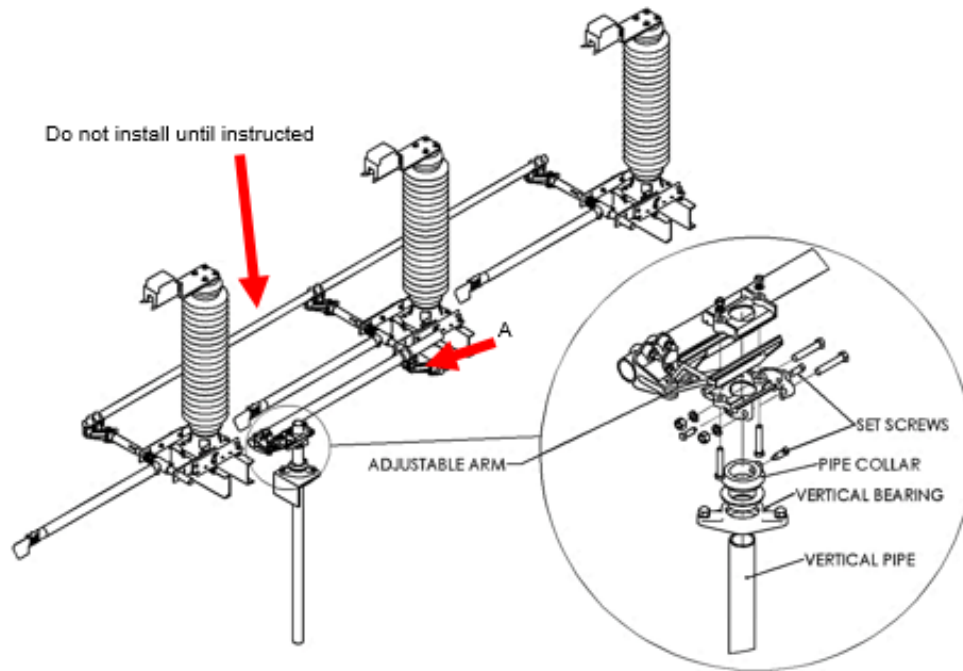
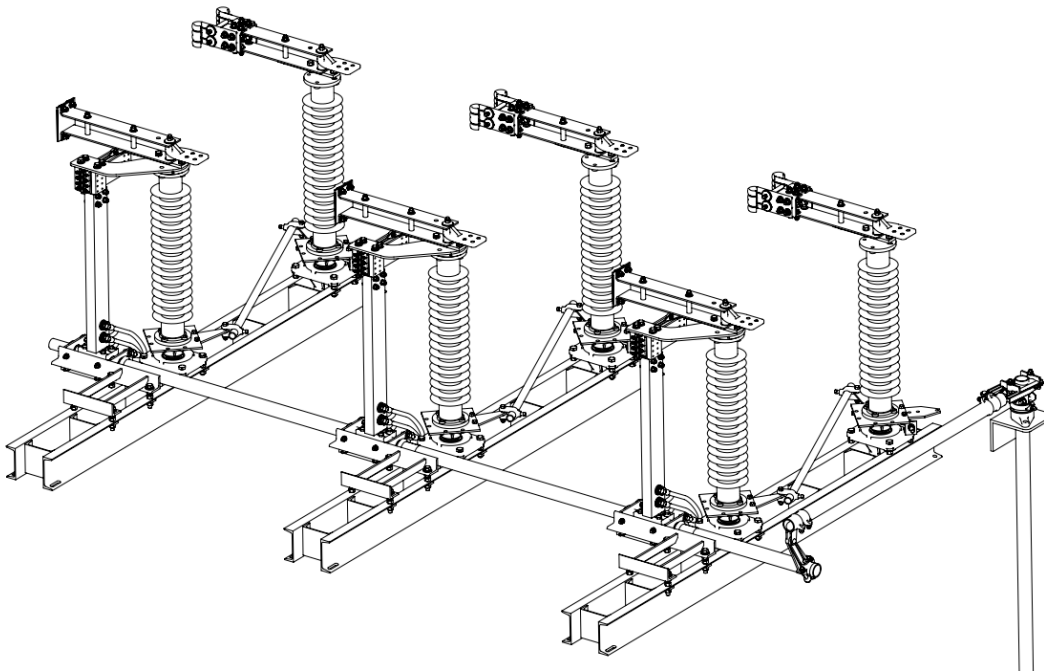

Figure 10: Perpendicular to the Base
Figure 11: Parallel to the Base
- 3.1.1. Depending on configuration, either parallel to the base or perpendicular to the base, use the sketch in **Figure 10** or **Figure 11** as a reference, and the operating mechanism drawing for specifics and dimensions. Install mounting brackets, bearings, bushings, clevises, operating device, adjustable arm, vertical pipe and reach pipe, etc. Be sure to install any encircling member (such as key interlock, pipe guide, etc.) on the vertical pipe at this time. REFER TO SECTION 4.1 for note on interphase pipe installation.
- 3.1.1.3. If provided, pay close attention to the dimensions shown on the drawings for the initial setup of the lever drive arm shown on the drawings (marked with an "A" in the **Figure 11**).
- 5.2.1. For perpendicular arrangements similar to the one shown in **Figure 10** this is achieved by connecting the operating pipes to the center phase only. Once adjusted, open the switch and connect the interphase pipe between all phases. Operate the switch and make adjustments if necessary.
- 5.2.2. For parallel arrangements similar to the one shown in **Figure 11** this you must install the interphase before adjusting the switch. When adjusting focus on adjusting the phase closest to the operating reach rod and then the next two phases.